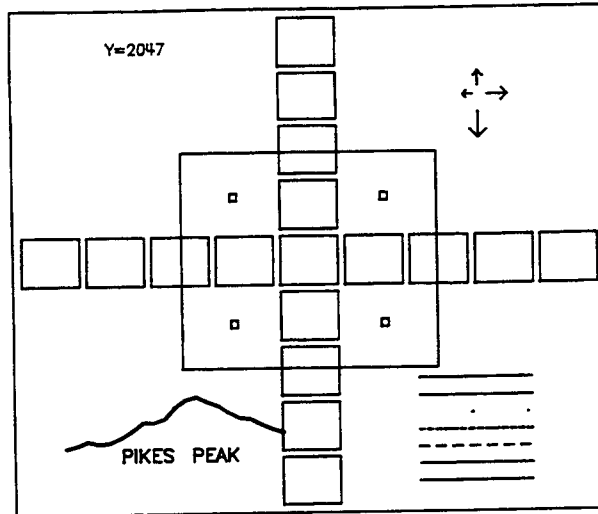

Figure 5. Display Test Pattern
Turn off the analyzer. Remove the PC board retainer and the A9 CPU assembly. Turn the instrument on. The A18 display should show a test pattern identical to the one shown in Figure 5.
- If the display is still blank, or the test pattern matches Figure 5 but the intensity or focus is out of adjustment, turn the instrument off. Perform the Display Intensity and Focus Correction Constants routine in the *Adjustments* section of this manual.